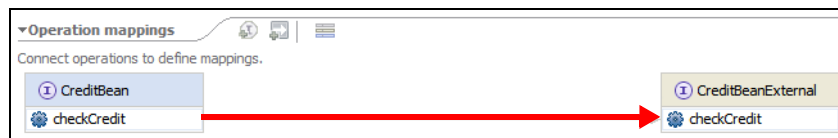

Figure 16-35 Editing the interface map
- ▶ Connect the `checkCredit` operation of the `CreditBean` interface with the `checkCredit` operation on the `CreditBeanExternal` interface (Figure 16-35).